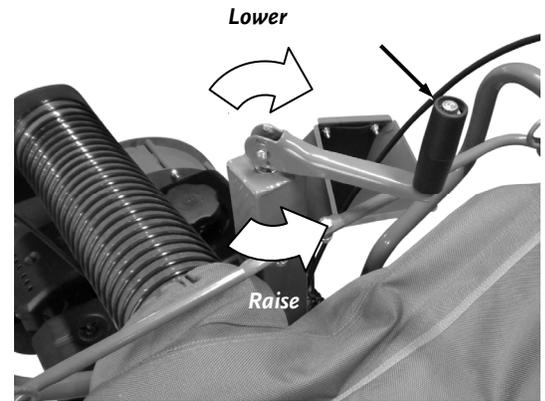

Figure 12
1. Level the Lawn Vacuum by rotating the Height Adjust Handle (**Figure 12**).
1. Level the Lawn Vacuum by rotating the Height Adjuster Handle (**Figure 12**).